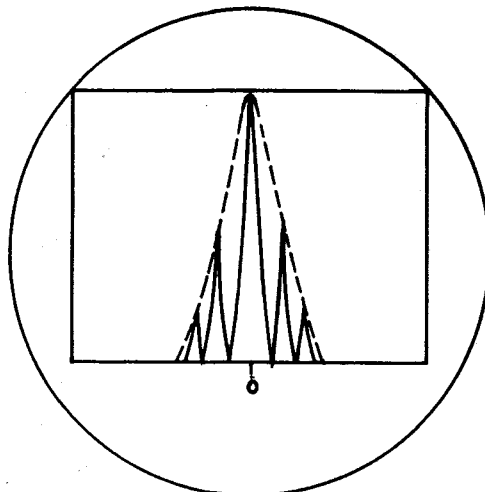

Figure 1-2. - Pulse Signal at Reduced Sweepwidth.
e. You may recognize pulse signals. In addition, you may approximate roughly the pulse rate of such signals. See Section III, Par. 4. A pulse signal appears on the screen as a series of peaks or deflections as shown in Figure 1-2.